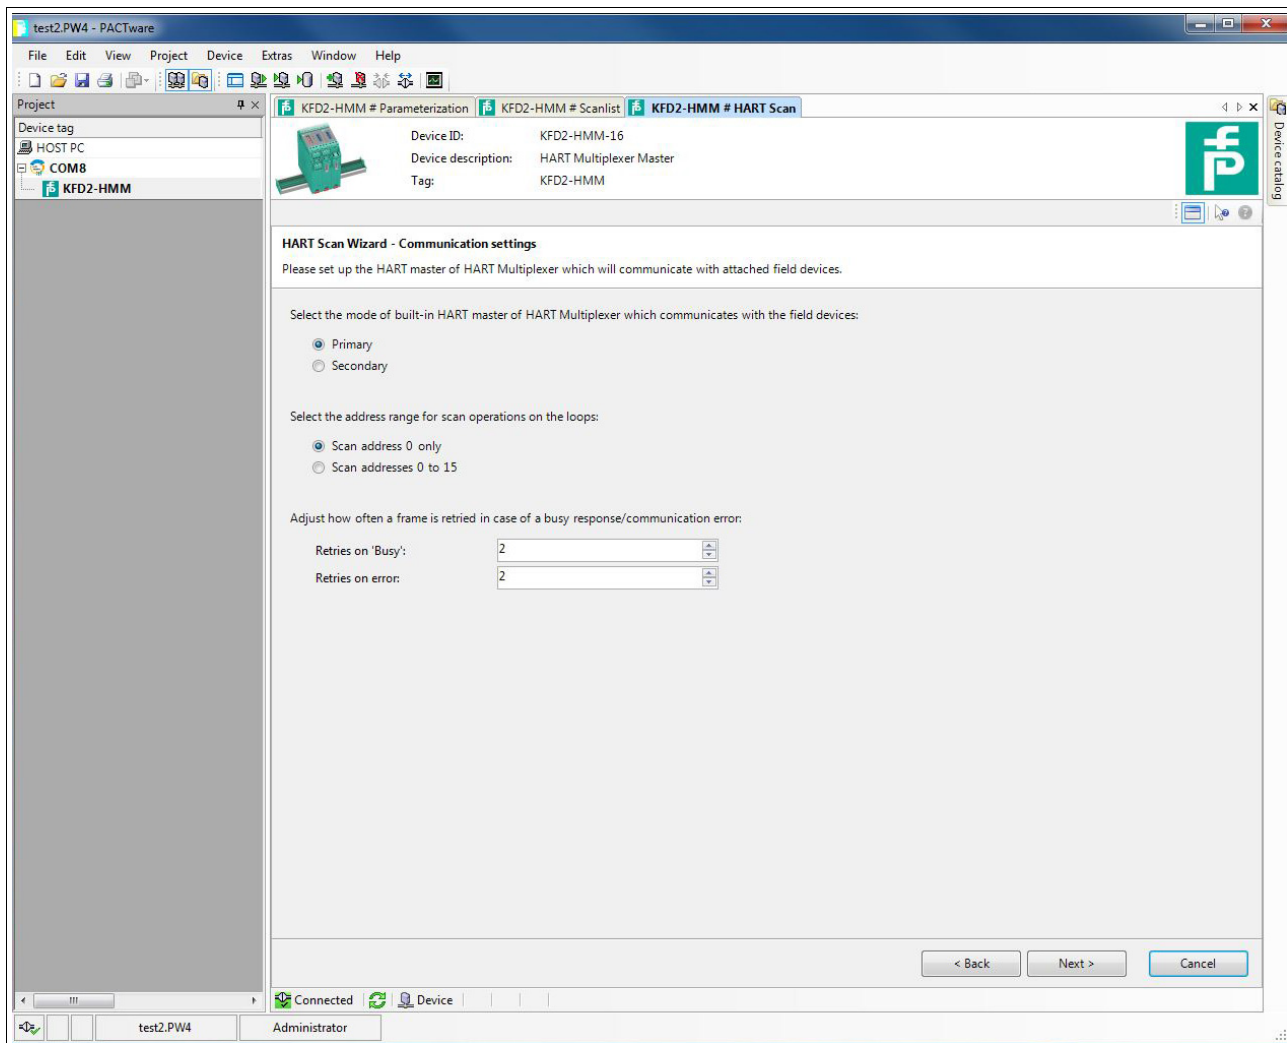

Figure 6.14 HART Scan Wizard, communication options
- **First commissioning:** Select this option to create a complete basic setup of the FDT project. Devices included in the FDT project, such as the multiplexer master, multiplexer slaves, and field devices, including the communication settings, are recorded and analyzed. If you select this option, you have to define additional settings in the next steps, see Figure 6.14: